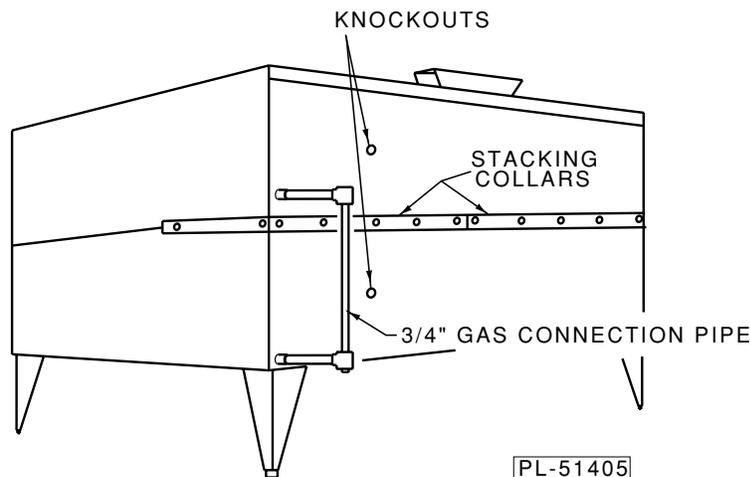

Fig. 2
2. Secure both ovens together with 1 right and 1 left stacking collar (Fig. 2). Fasten collars to ovens using 14 #10-24 screws provided.
3. Install the 3/4" gas connection pipe (Fig. 2).
To install the nozzle(s), remove the knockout(s) (Fig. 2) from the back of the oven and the plug(s) from the oven cavity. Insert the nozzle(s) provided.